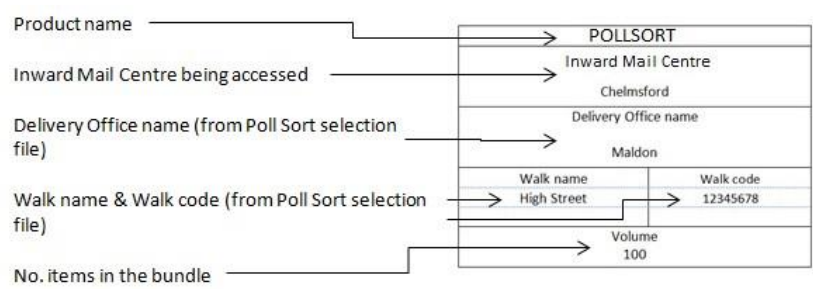

Figure 56: Poll Sort bundle label
- b. Tray labels and York cards must clearly be identified as poll sort. Examples of labels are shown below in Figures 56 to 59.